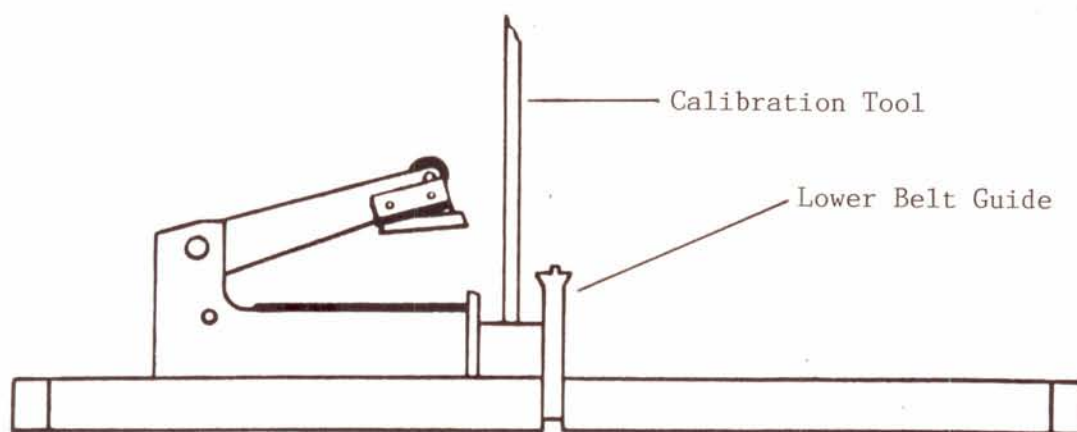

Figure 4
5. Position each of the dies approximately one inch away from the lower belt guide by turning the multidials counter-clockwise. Place the calibration tool provided in the guide slot in front of the die being calibrated. Advance that die toward the lower belt guide by turning the appropriate multidial clockwise until the calibration tool lightly contacts both the die and lower belt guide as shown in figure 4.